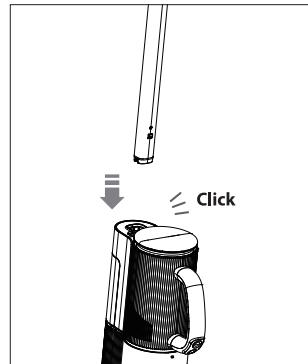

Fig. 5 – Handle assembly
- ▶ Push the handle into the appliance body as far as it will go until you hear it click into place. The handle must sit firmly in the appliance (**(see Fig. 5)**).